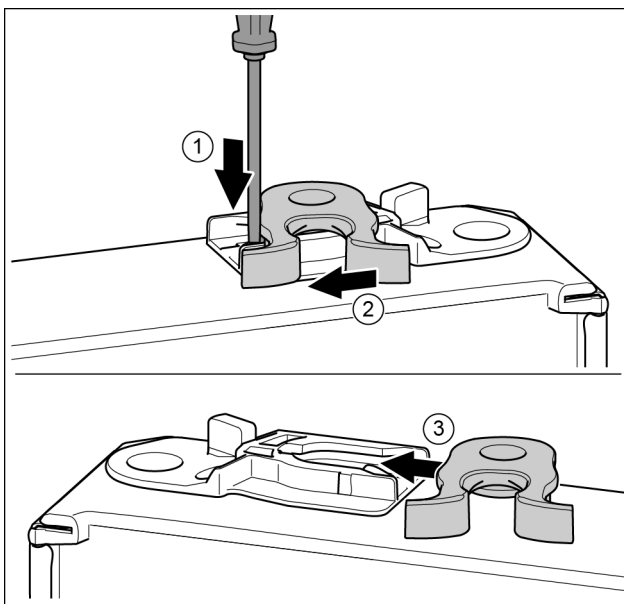

Fig. 33 *
- ▶ Push the tab downwards with a slotted screwdriver. Fig. 33 (1) *
- ▶ Pull the door latch out of the guide. Fig. 33 (2) *
- ▶ Push the door latch into the guide on the other side. Fig. 33 (3) *